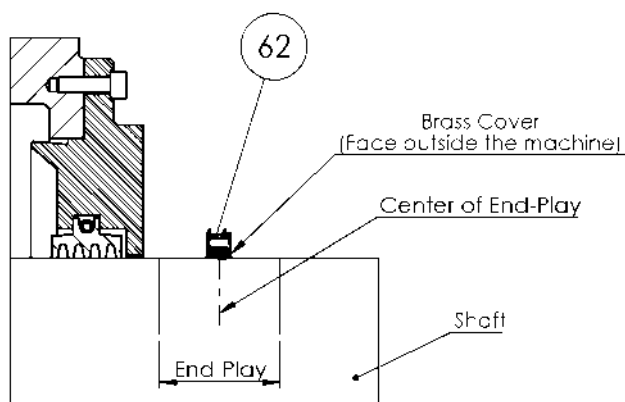
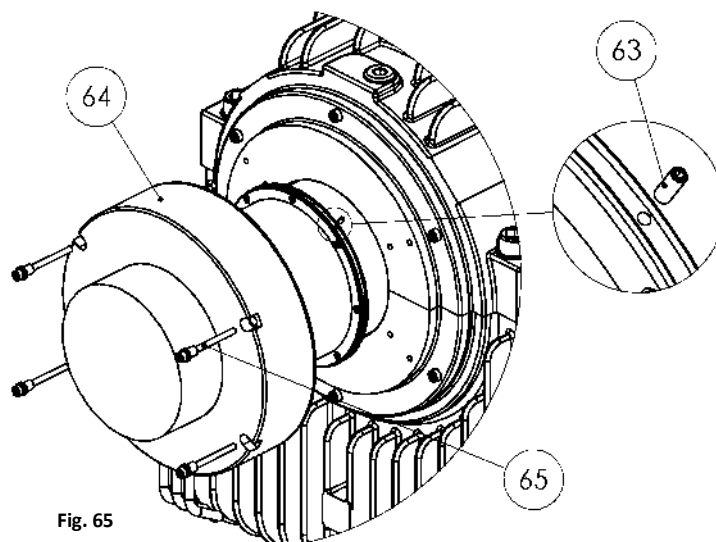

Fig. 63
Fig. 65
- Check the maximum longitudinal displacement (end-play) of the shaft. Then place the centrifugal ring at the center of the displacement as showed on figure 63.
- Screw the two lock bolts (63) placed around the centrifugal ring. Confirm if the centrifugal ring is totally fixed at the shaft.
- Finally, place the IP-56 baffle (64) on the shaft and attach with the screws (65) (Fig. 65).